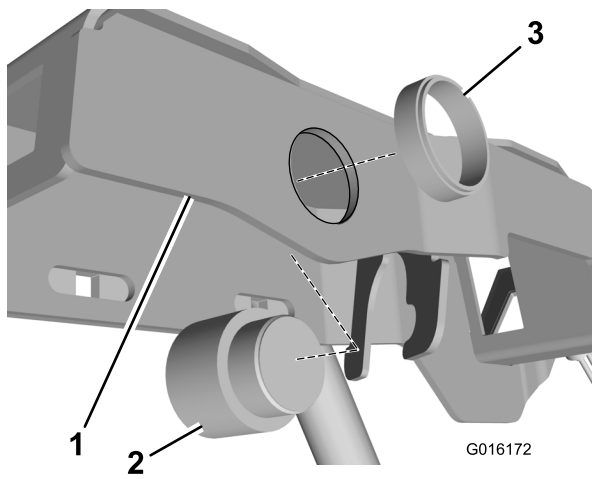

Figure 2
6. Install the audio alarm into the console arm frame (Figure 2).